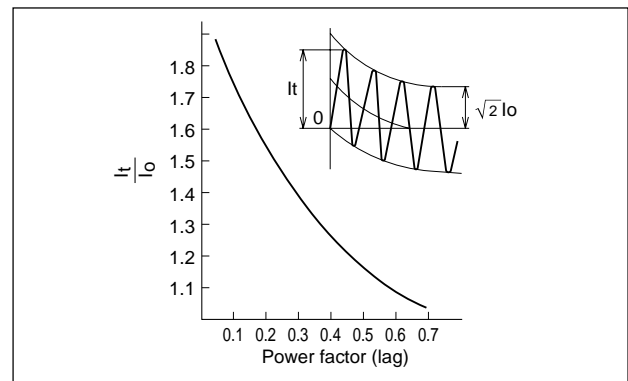

Fig. 6.20 Transient DC Component
1. Superimposed DC Transient (Low Power-Factor Effect) Fig. 6.20 shows that the power factor is about 0.3 at starting, causing a significant DC component, so that the total transient inrush current may reach about twice the value of the AC component, even though the latter is of constant amplitude. Peak inrush current (I_t) of 1.4 x normal starting current (I_0) must be allowed for, in selecting the MCCB instantaneous-trip setting.